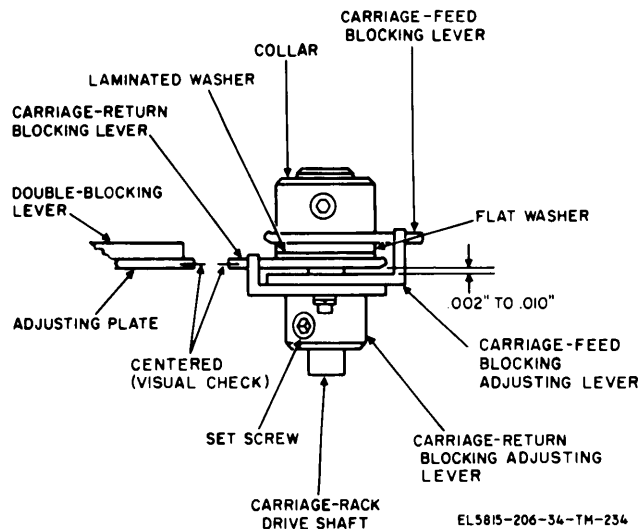

Figure 3-164. Carriage-feed blocking-lever adjustment.
**3-197. Carriage-Feed Blocking-Lever Adjustment (fig. 3-164)**